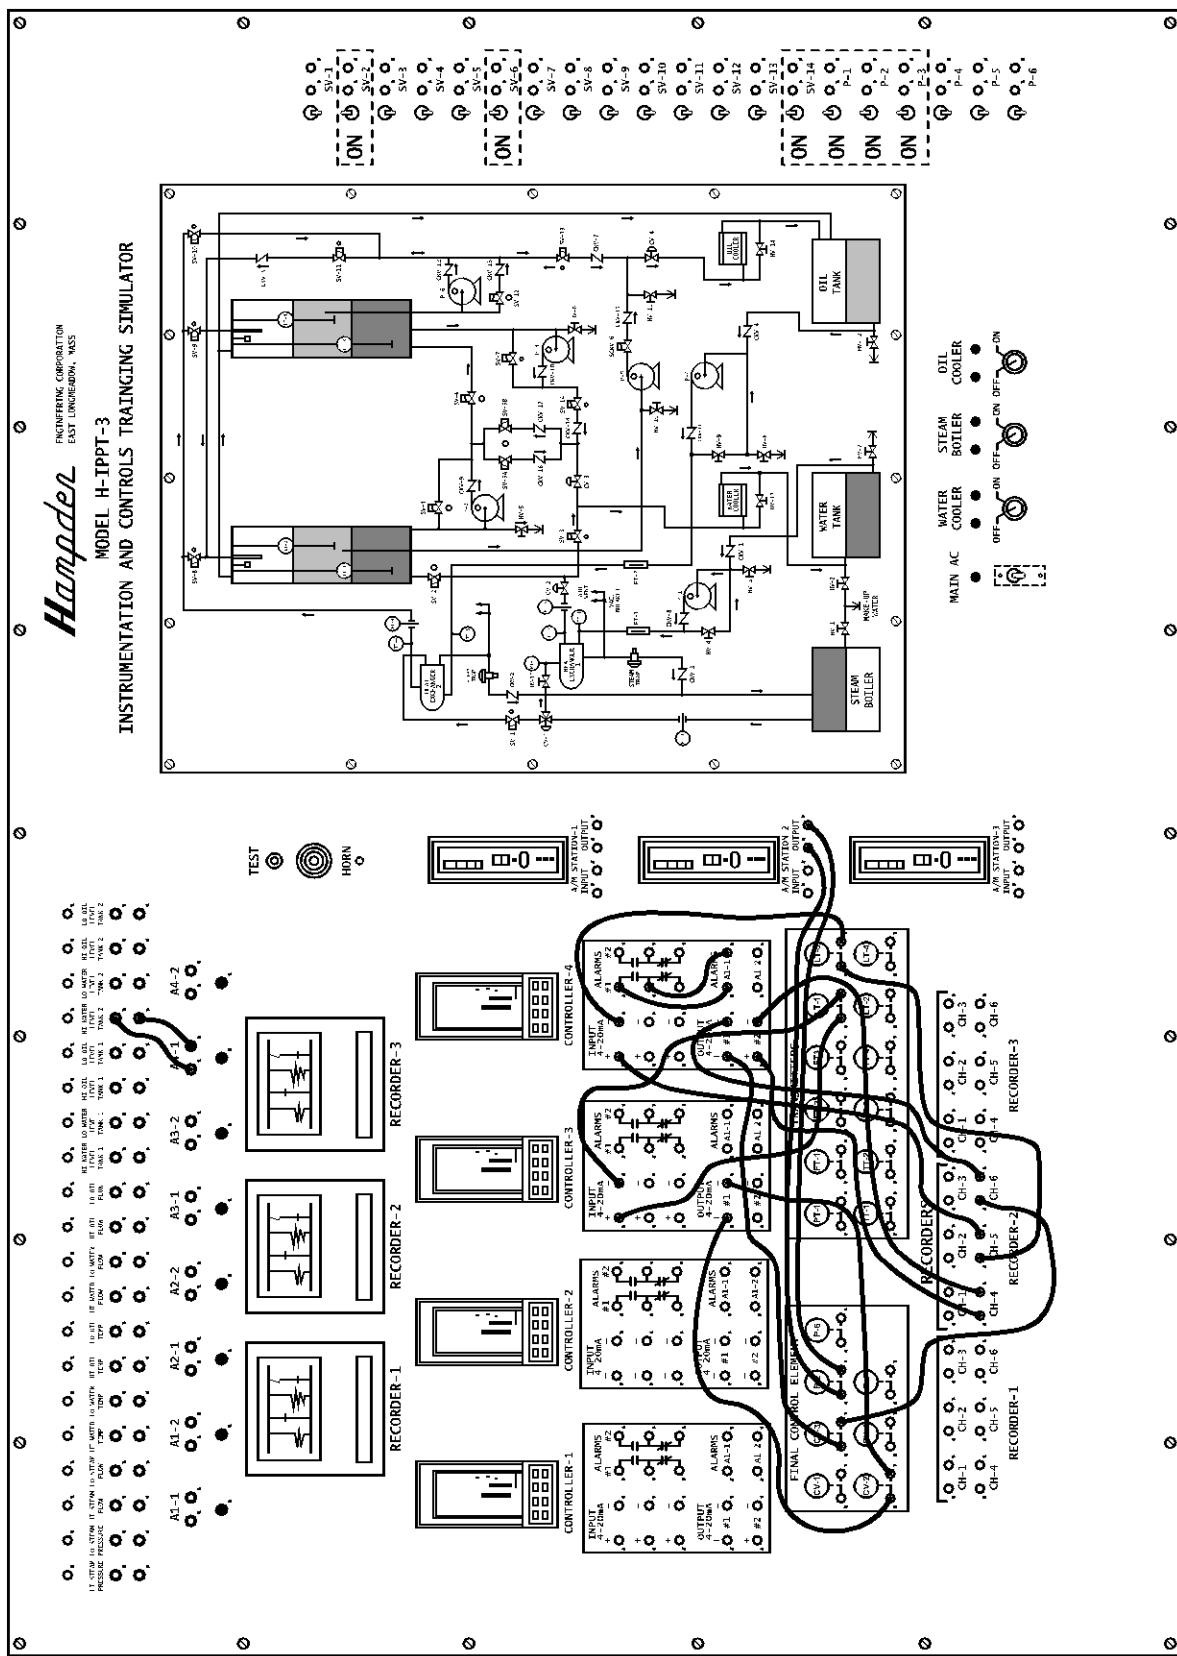

Figure 3
6. Interconnect the process control equipment per Figure 3.